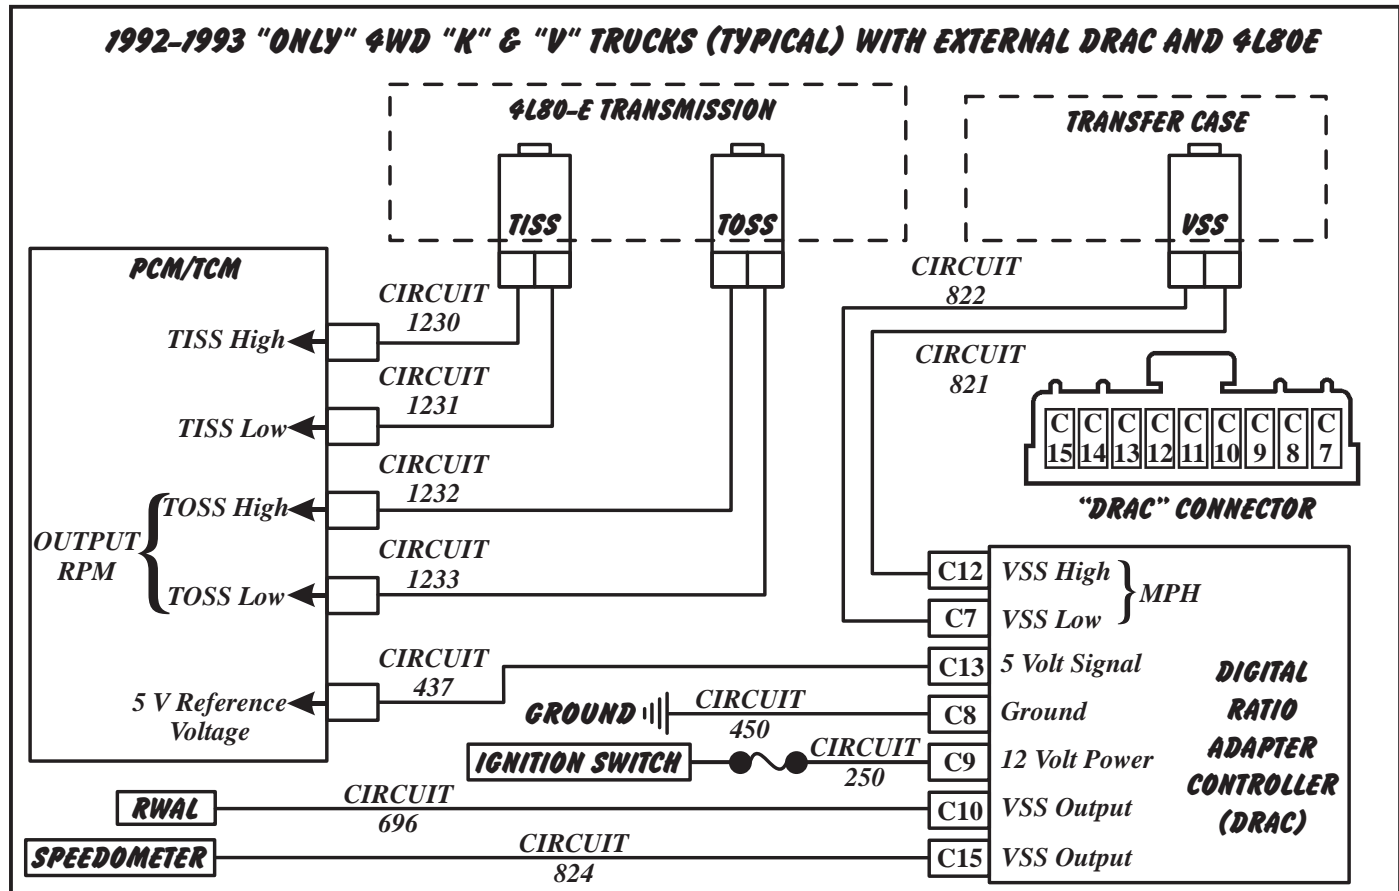
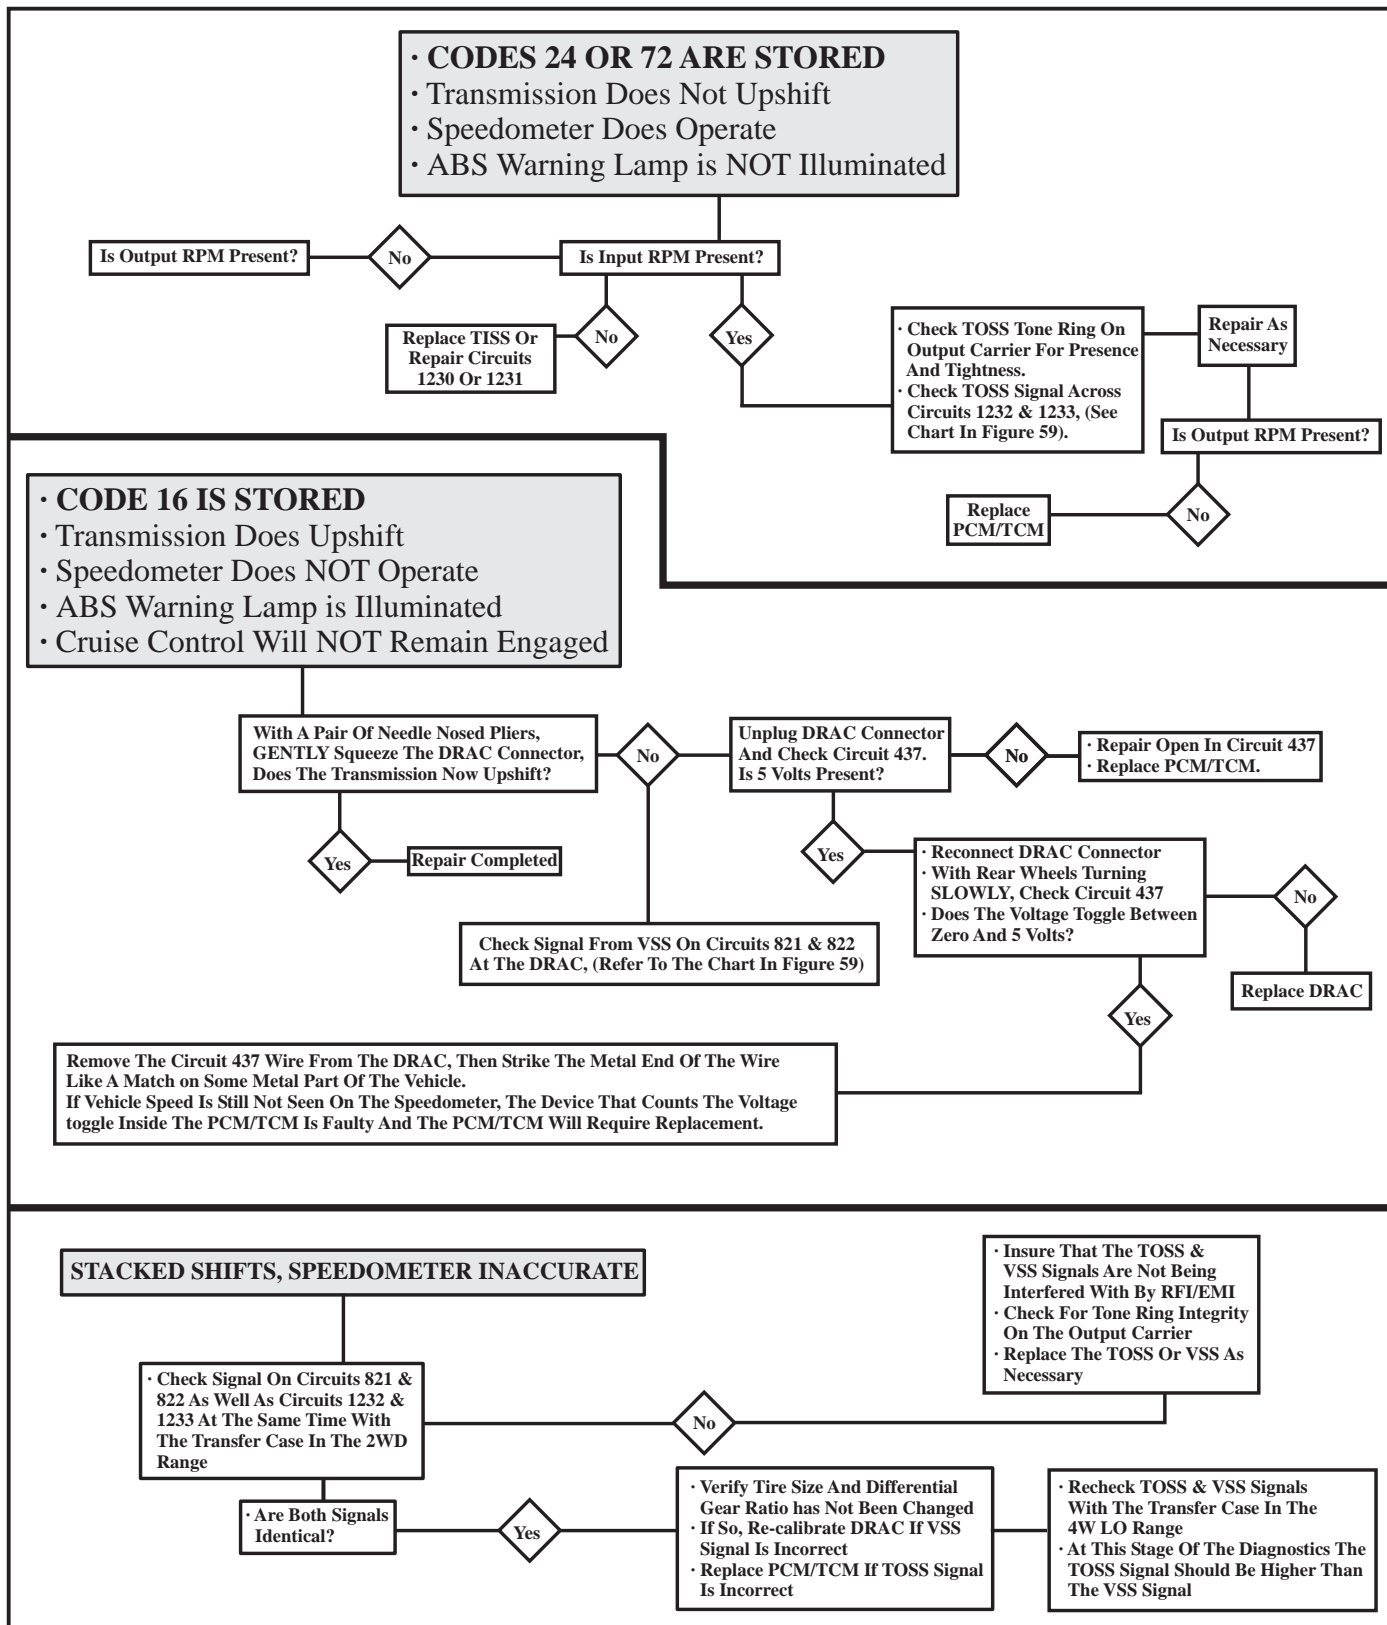
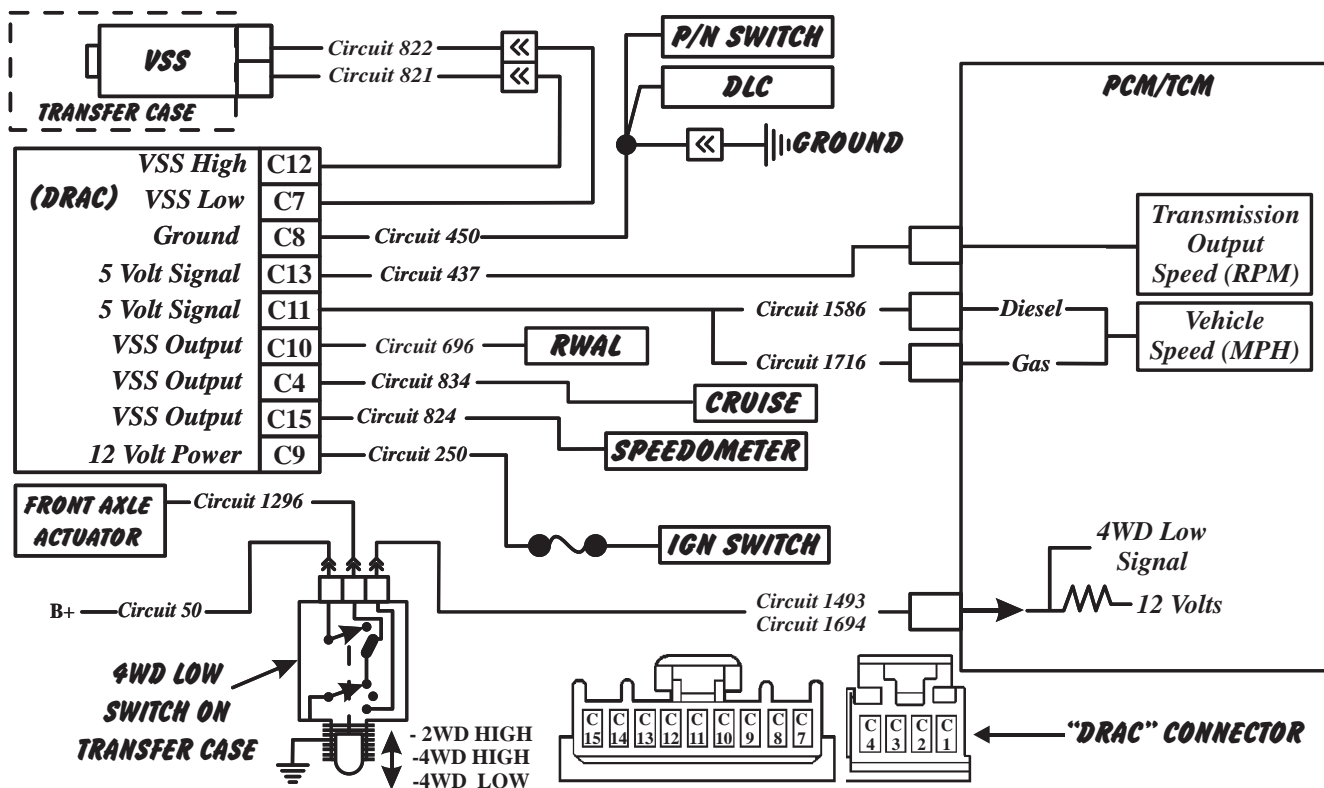

Figure 58
Figure 60
Figure 62
- A short or open in circuit 437, (Refer to Figure 58).
- A faulty ignition switch or blown fuse causing a loss of power to the DRAC, on Circuit 250, (Refer to Figure 58).
- A poor DRAC ground Circuit 450, (Refer to Figure 58).
- A fault in the Vehicle Speed Sensor (Transfer Case), its wiring (Circuits 821 or 822) or connector, (Refer to Figure 58 and the Sensor Value Chart in Figure 59).
- A faulty Output Shaft Speed Sensor (Rear of Transmission Case), or Circuits 1232 or 1233, (Refer to Figure 58 and the Sensor Value Chart in Figure 59).
- The schematic in Figure 58 covers 1992 to 1993 vehicles, but the 1991 "K" truck that has the "DRAC" located inside the speedometer cluster is diagnosed in the same way as the external "DRAC", the circuit numbers are the same as well. The diagnostic tree is seen in Figure 60.
- A short or open in circuit 437, (Refer to Figure 62).
- The PCM is not sending 5 volts on circuit 437, (Refer to Figure 62), or does not read the voltage toggle between 0 and 5 volts, (Refer to Figure 53 for computer locations).
- A faulty ignition switch or blown fuse causing a loss of power to the DRAC, on Circuit 250, (Refer to Figure 62).
- A poor DRAC ground Circuit 450, (Refer to Figure 62).
- A fault in the Vehicle Speed Sensor (Transfer Case), its wiring (Circuits 821 or 822) or connector, (Refer to Figure 62 and the Sensor Value Chart in Figure 59).
The "DRAC" diagnostics in Figure 62 and the diagnostic trouble tree in Figure 60 can be used for the vehicles listed below.
- The VSS system seen in Figure 62 is also used in the NON-OBDI-II Hummer H1. Although Hummer uses their own circuit numbers, the system operates and is diagnosed exactly the same as a 1994-95 GM "K" truck, including the Four Wheel Drive LOW Switch you see in Figure 62.